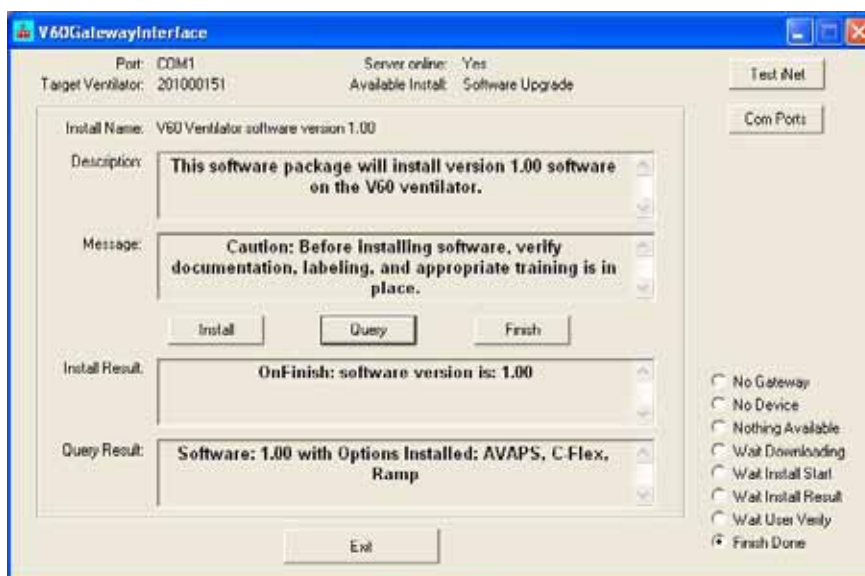

Figure A-9: Query Confirmation Screen
20. Click **Query** on the GatewayInterface screen to display query results (Figure A-9).